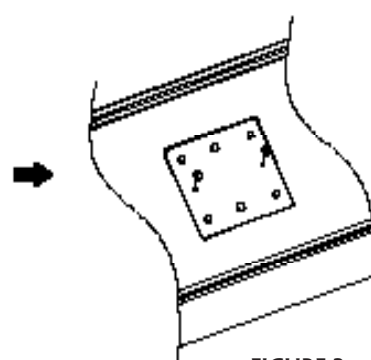

FIGURE 3
4. Reattach panel to fixture by rescrewing the screws into the panel (FIG. 3).